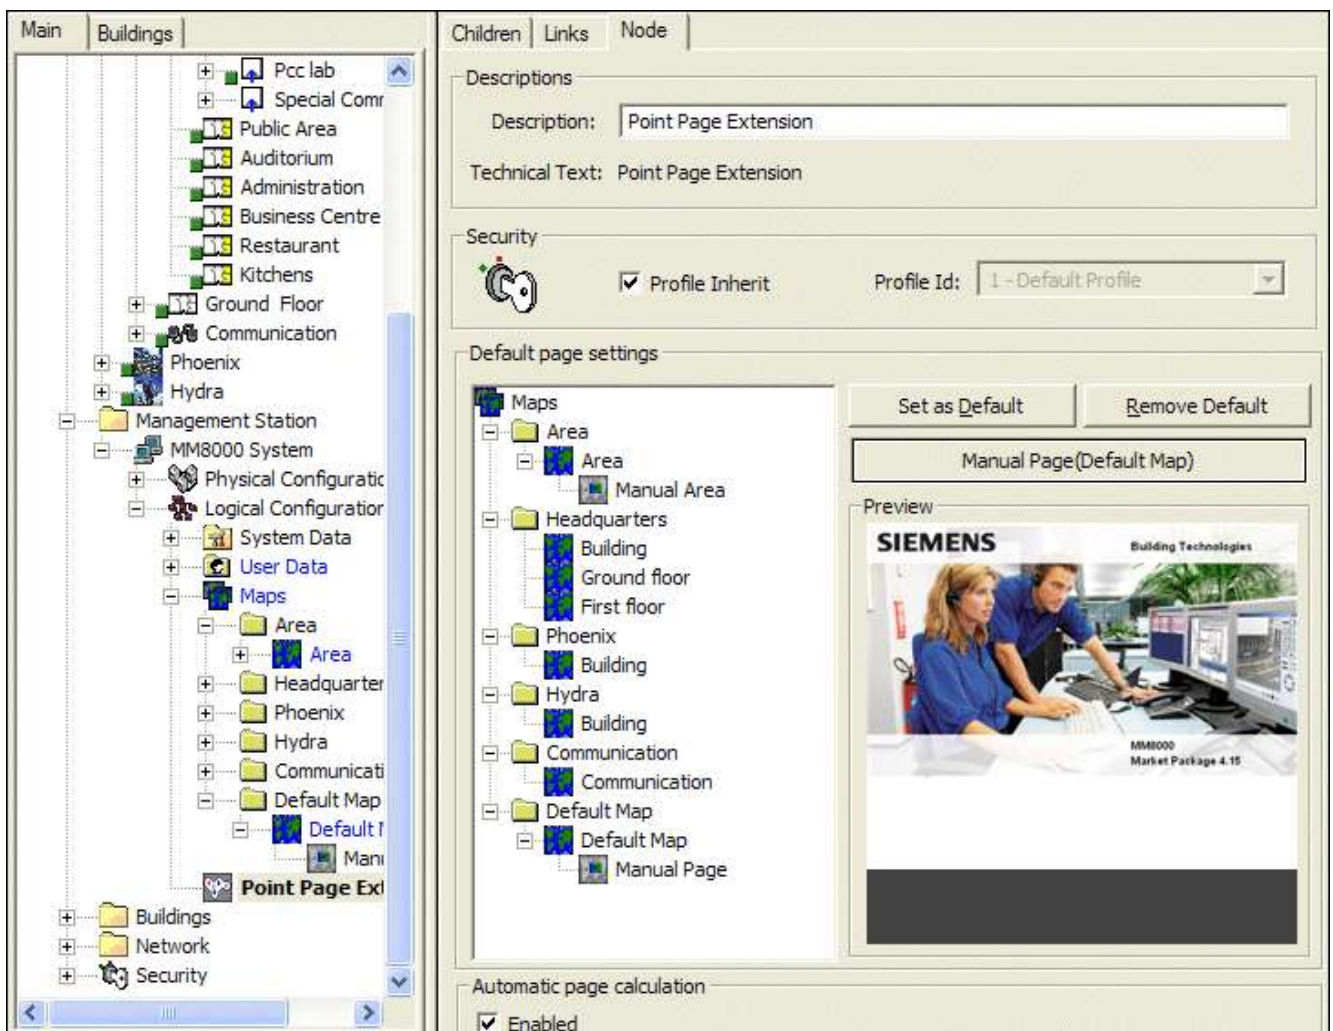

Fig. 27 Setting the default page
4. Select 'Set as Default' (see Fig. 27).